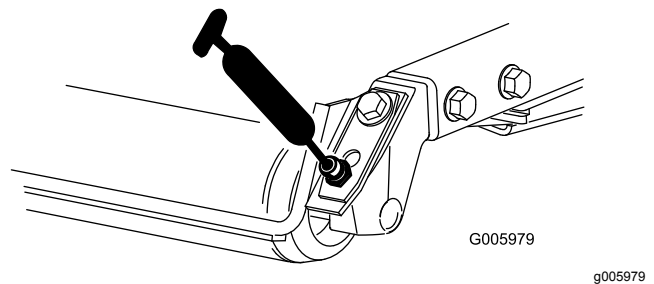

Figure 26
- Rear roller bearings (2 per cutting unit) (Figure 26)